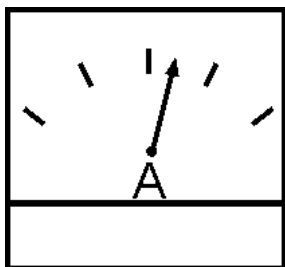

Figure 52. Ammeter (Load)
17. Observe the generator's ammeter (Figure 52) and verify it reads the anticipated amount of current with respect to the load. The ammeter will only display a current reading if the load is in use.